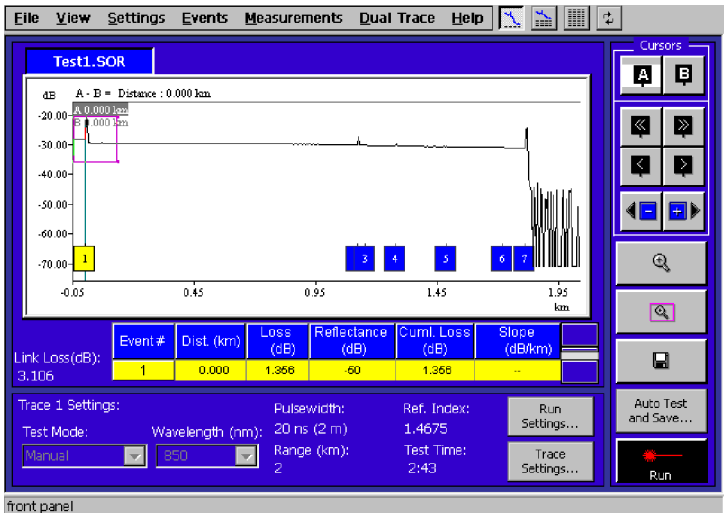

**Figure 2-7: Sample file Test1.SOR illustrates that different types of events can look similar**
2. Look at the seven events. You will see something similar to Figure 2-7.